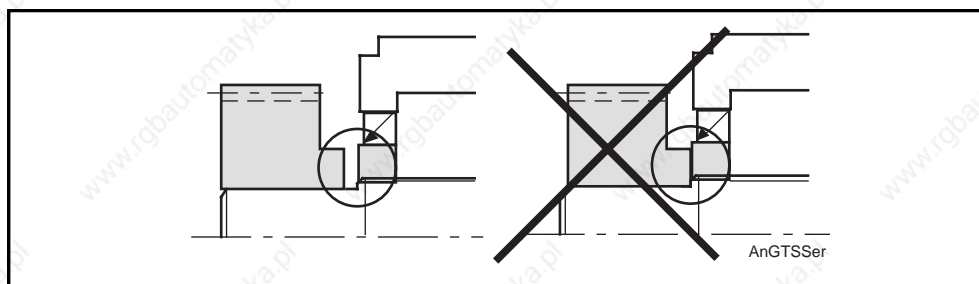

Fig 3.1: Mounting drive elements
- The “bearing clamp ring” for prestressing the gearbox output shaft should not serve as a buffer for the output drive elements (see Figure 3.1). All axial forces must be fed over the drive shaft into the gearboxes.